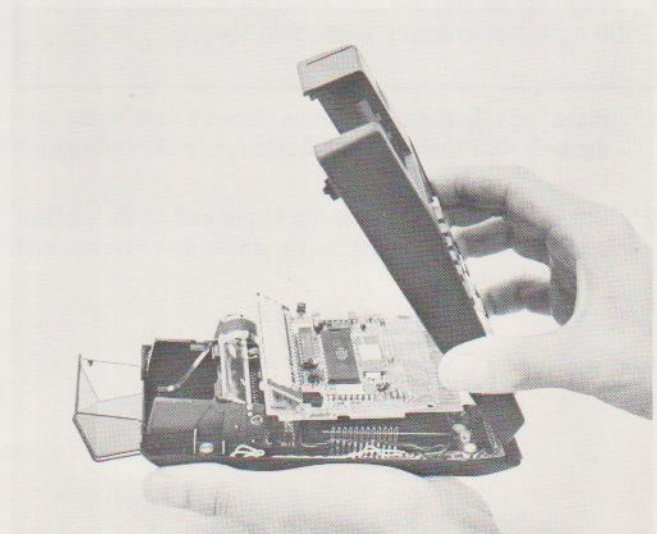

Figure 3-5. Positioning Keyboard/Topcase Assembly Over Bottom Case
- b. Hold the keyboard/topcase assembly, with the logic PCA hanging out from it, over the bottom case as shown in figure 3-5.